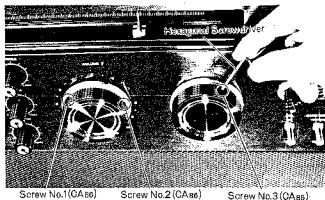

Fig. 7
3. Remove the three (3) screws (nos. 1~3) for the volume and tuning knobs, by using a hexagonal screwdriver, as shown in fig. 7.